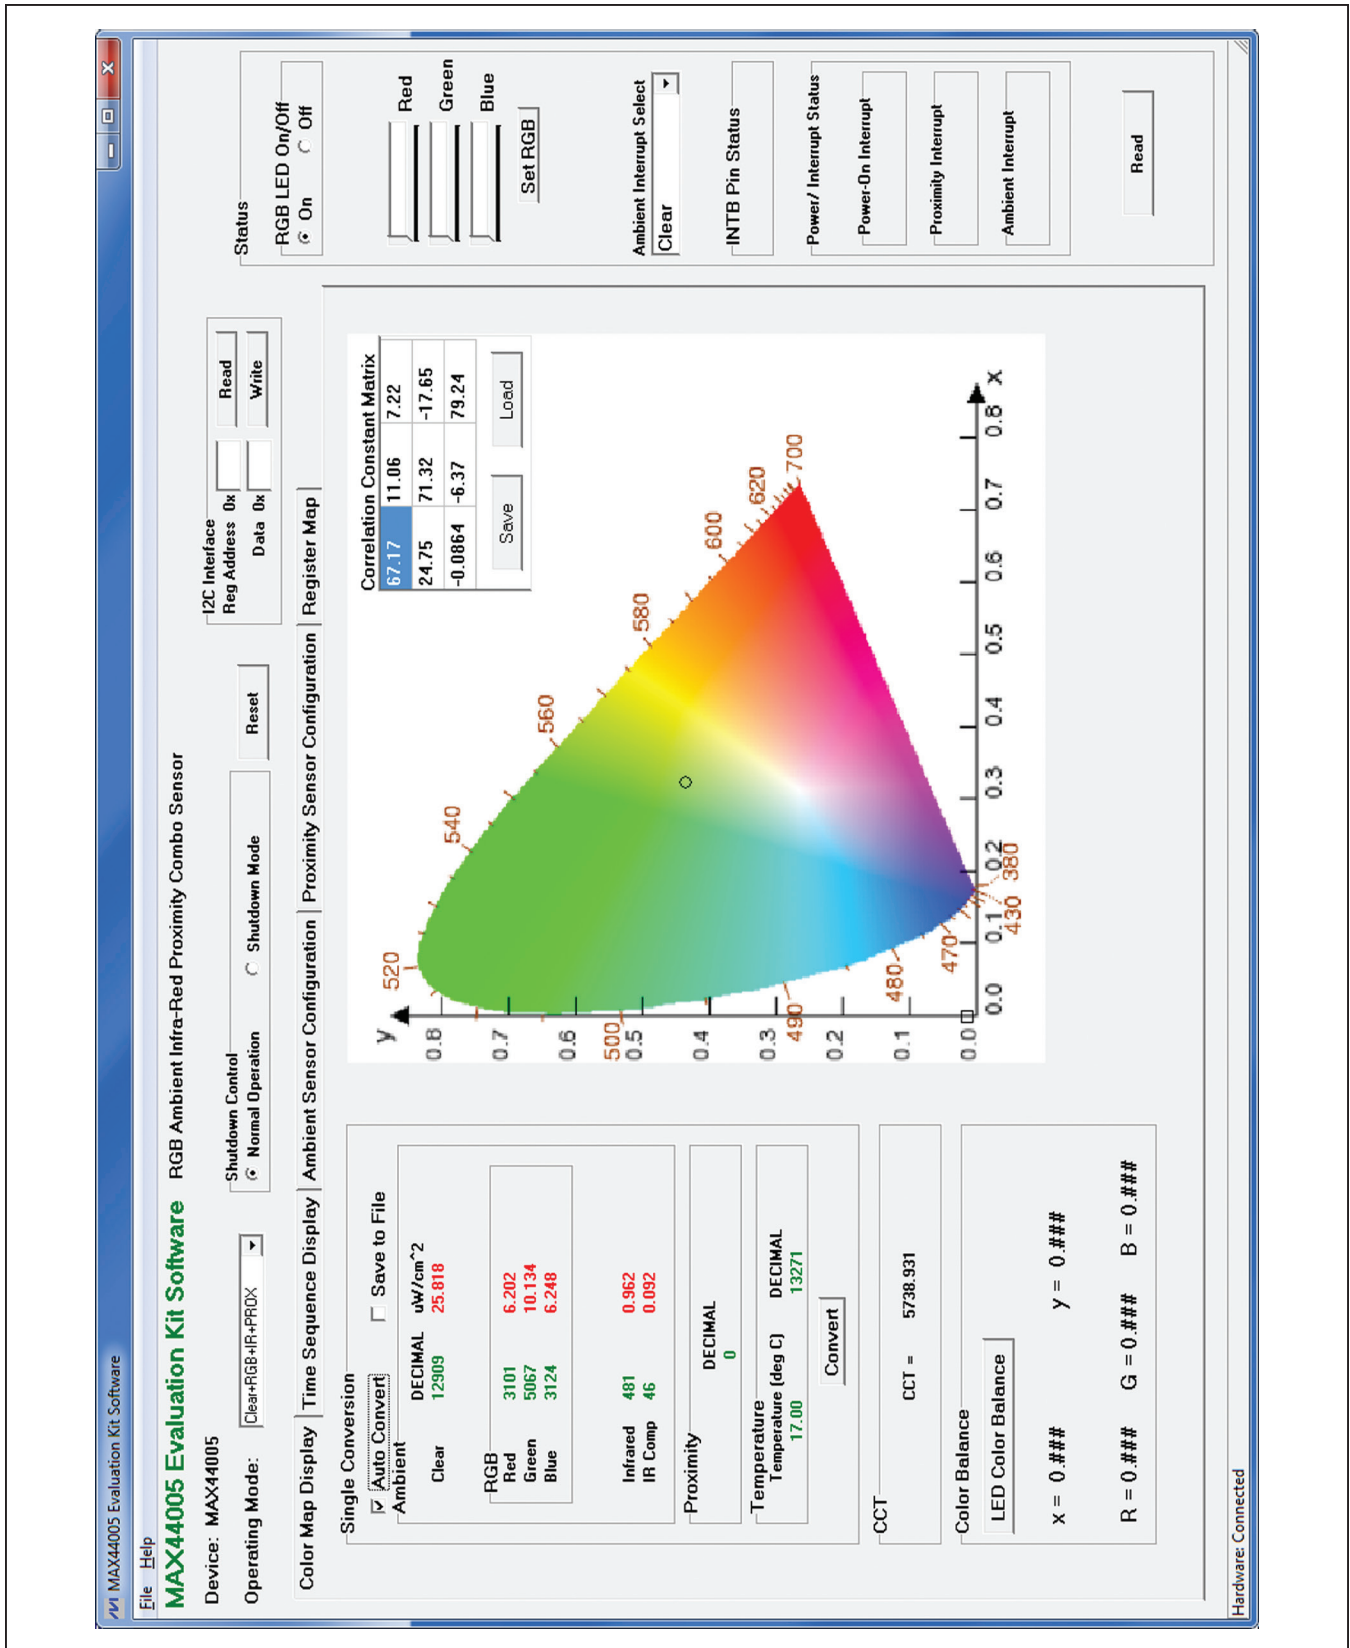

Figure 1. MAX44005 EV Kit Software Main Window (Color Map Display Tab)
- 5) Start the EV kit software by opening its icon in the **Start | Programs** menu. The EV system software main window appears, as shown in Figure 1.
- 8) In the **Color Map Display** tab sheet (Figure 1), check the **Auto Convert** checkbox in the **Single Conversion** group box to read the ADC values.
The MAX44005 EV kit software (Figure 1) contains an **I2C Interface** group box, a **Status** group box, and five tab sheets (**Color Map Display**, **Time Sequence Display**, **Ambient Sensor Configuration**, **Proximity Sensor Configuration**, and **Register Map**) to configure the MAX44005 IC and display the ADC data received from the IC.